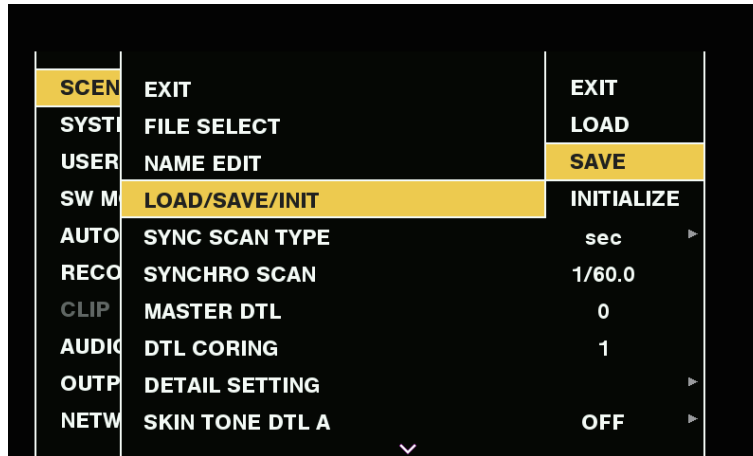

Fig. 1
- 2** Select [SAVE] in the main menu → [SCENE FILE] → [LOAD/SAVE/INITIALIZE] and press the control stick (or <SEL/PUSH SET> dial button). (Fig. 1)